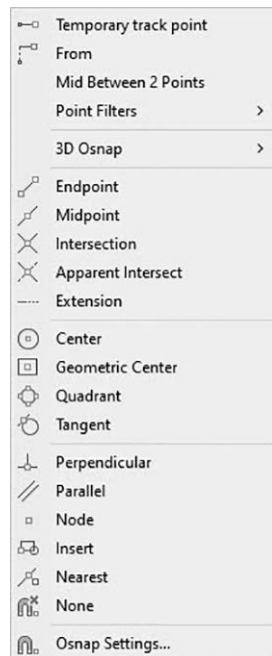

Figure 3-16
- Press **<Shift>** and right-click in the drawing area, then choose an object snap mode from the **Object Snap** menu that appears (Figure 3-16).